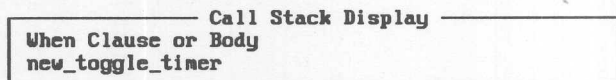

Figure 8-2. Call Stack Dialog Box
- 2 Issue the **Display Stack** command to open the Call Stack dialog box with the call stack displayed and the current context highlighted (see figure 8-2). When not currently executing application code, the call stack displays
For example, the application in figure 8-2 is halted in the `new_toggle_timer()` function.